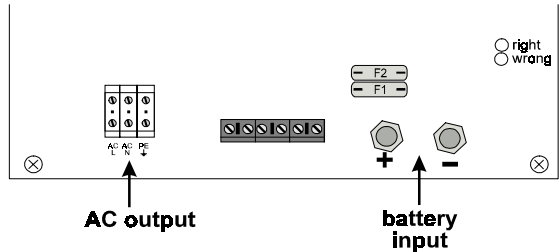

Fig. 3
- The connection points are located on the printed circuit board in the converter, see Fig. 3.